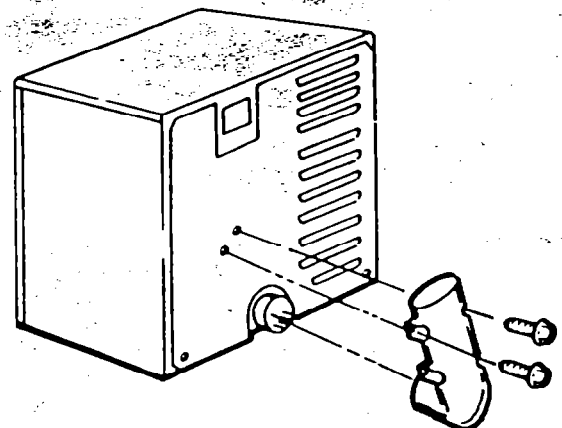

Figure 3
4. If you cannot exhaust your dryer to the outside, use Exhaust Deflector Kit LCK4000 available from your Whirlpool dealer. See FIG. 3.